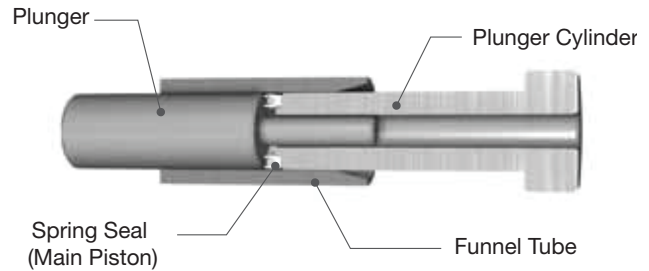

Figure 22: Funnel Tube
- (iv) Insert Funnel Tube, chamfer side first, over the Plunger and Spring Seal (Adjuster Top). Stop when Spring Seal (Adjuster Top) is about half way inside the Funnel Tube as shown in Figure 22.
(iv) Insert Funnel Tube, chamfer side first, over the Plunger and Spring Seal (Adjuster Top). Stop when Spring Seal (Adjuster Top) is about half way inside the Funnel Tube as shown in Figure 22.